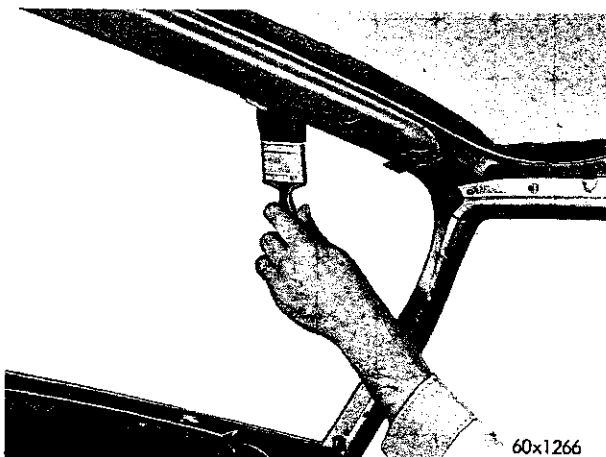

Fig. 43—Applying Cement at the Windshield Header Bar
(3) Starting at the rear of the vehicle apply cement to the window opening (Fig. 43). Install the rear bow tension spring.
(4) Install the bows in the correct location, since bows are of different length and must be correctly positioned to prevent the headlining from wrinkling. This procedure assures correct installation of the bows.
(5) Install the remaining bows, making sure to stretch the headlining evenly so that approximately the same amount of material hangs down on each side.
(6) Apply cement to the windshield header bar (Fig. 43). Wait until it becomes tacky. Stretch the headlining forward and over the cemented area, and onto the barbs on the windshield header. Make sure the first seam of the headlining is straight.